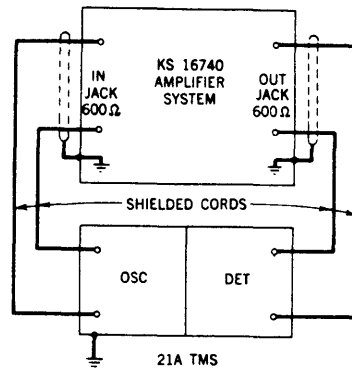

Fig. 1 – Test Setup for Gain-Frequency Test
4.01 The test setup for measuring the gain-frequency response is shown in Fig. 1. Chart I outlines the step procedure to be followed when making the test. The procedure may vary slightly depending on the testing equipment used.
| 2 | Connect circuit as shown in Fig. 1. | |
| 9 | Without changing OSC output level, reconnect circuit as shown in Fig. 1. | |